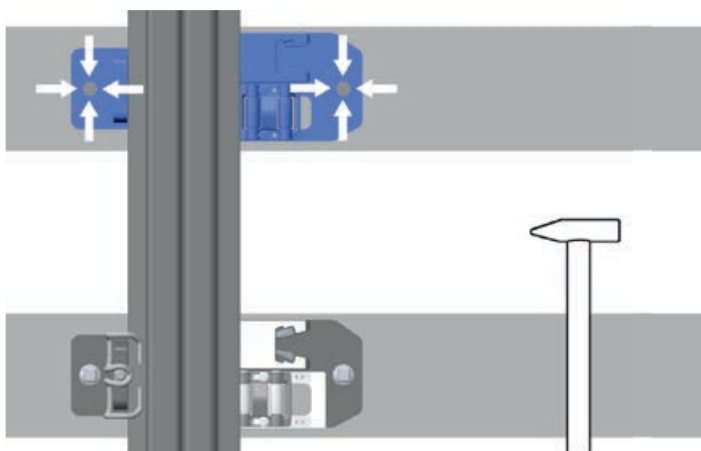

Fig. 2: Positioning of IRV
- 6) New IRV integrated roller plate has to be positioned and aligned on the sleeper. [where needed, hammer] (Fig. 2)